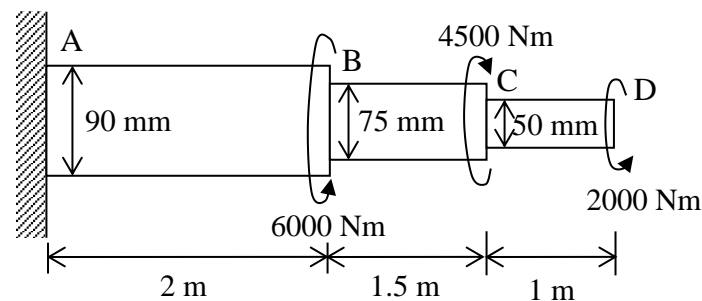

Figure 7 / Rajah 7
- (b). A stepped shaft $ABCD$ consisting of circular hollow segments is subjected to three torques as shown in **Figure 7**. The thickness of each segment is 10 mm. The torques have magnitudes of 6000 Nm, 4500 Nm and 2000 Nm. End A is fixed and the material is steel with shear modulus of elasticity $G = 80$ GPa.